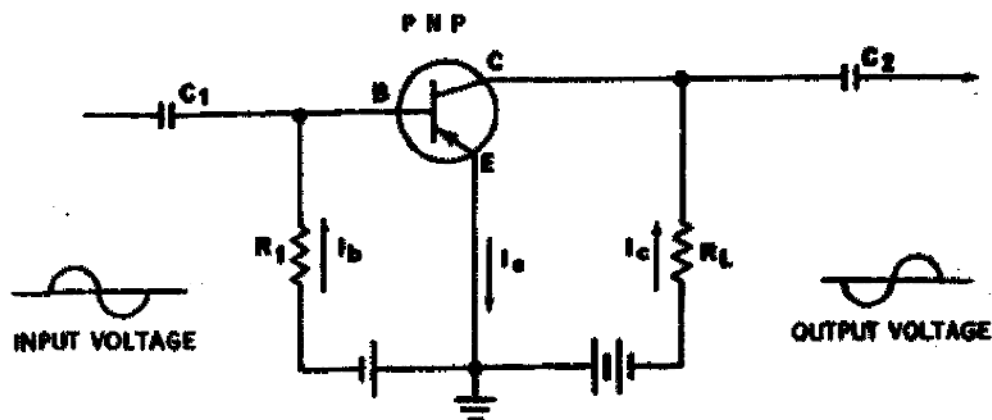

Figure 123. Common emitter amplifier.
7. The signal being applied to the emitter-base circuit has now been reproduced in the collector circuit. The signal has been greatly amplified because the current flowing in the collector circuit is through a high impedance network. It is also possible to use a P-N-P type transistor, as shown in figure 123.